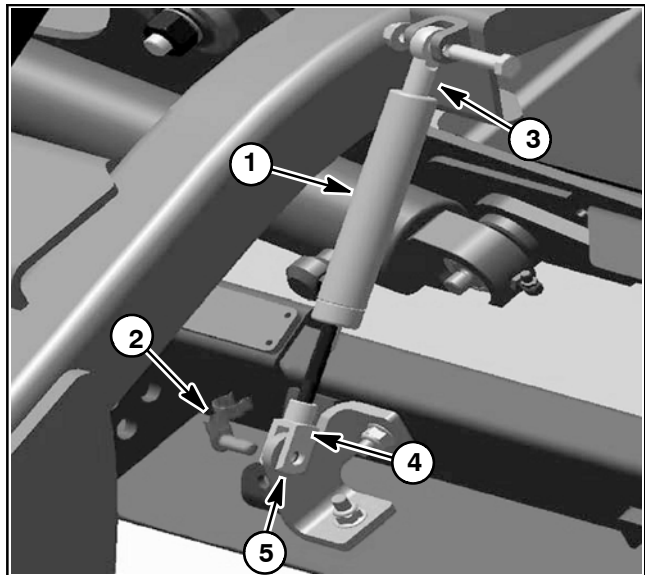

Figure 7
- C. If rod and clevis ends were removed from damper, apply Loctite #271 (or equivalent) to threads on damper shaft and stud. Install ends on damper. Install damper assembly to lift arm with damper clevis end toward deck location (Fig. 7).